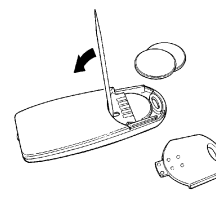

Fig. 10
2. Insert a small non-metallic pointed tool in the slot as shown in figure 10 and force the batteries out.